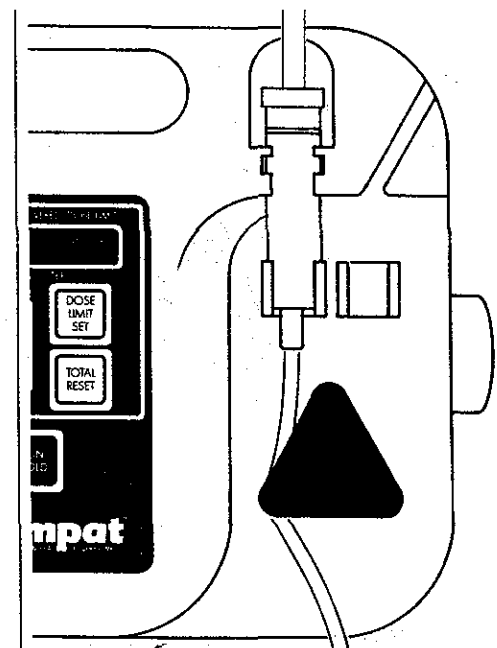

Figure 2-3 Insert Pump Set Drip Chamber.
6. Insert drip chamber into drip chamber brackets. (Figure 2-3)